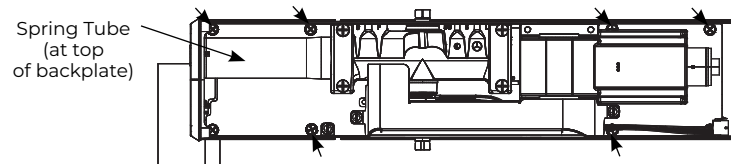

Figure 12 Remaining LAP Mounting Screws - Left Hand View
NOTE: When properly oriented, spring tube is at bottom on left hand backplate (Figure 12) and at top on right hand backplate.
4. For each LAP, use six (6) 1/4-20 x 1/2" Phillips head screws to secure. (Figure 12)